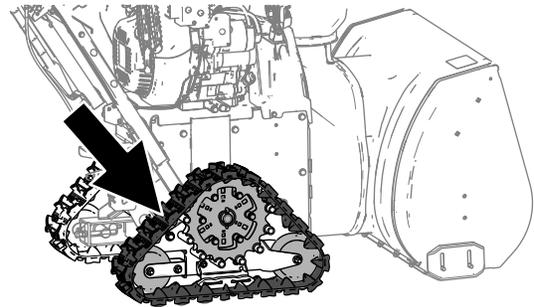

Figure 25
2. Apply 44 N (10 lbf) between the middle and rear roller (Figure 25).